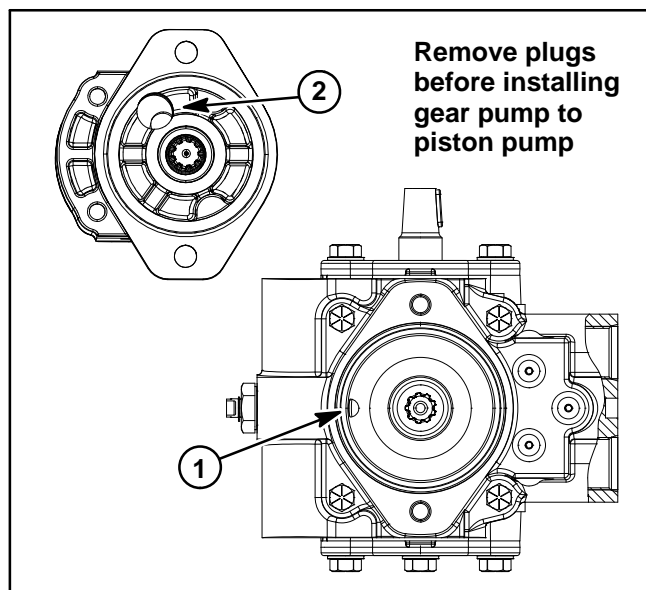

Figure 47
**IMPORTANT: A case drain exists in the piston (traction) pump and a suction port is near the input shaft of the gear pump (Fig. 47). Before the gear pump is installed to the piston pump, make sure that plugs placed in either of these ports are removed. Failure to remove plugs will cause excessive pressure in the piston pump and damage seals.**